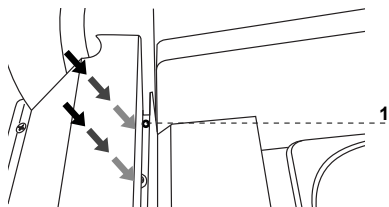

Fig.6 Fixing glass screen
4. Mount front screen Fig.6 (p.14)